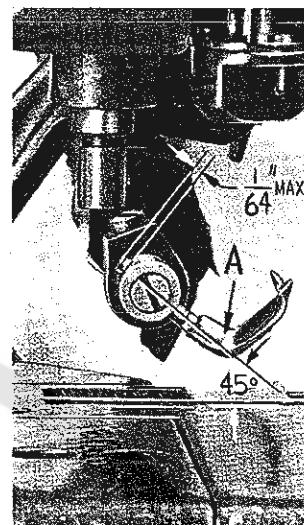

Fig. 6A
Preliminary Setting: Position the holder so the hole is approximately 45° to the throat plate (Fig. 6A). Insert the spreader (A) in the holder so its shank extends NOT more than $1/64$ inch beyond the holder (Fig. 6A).